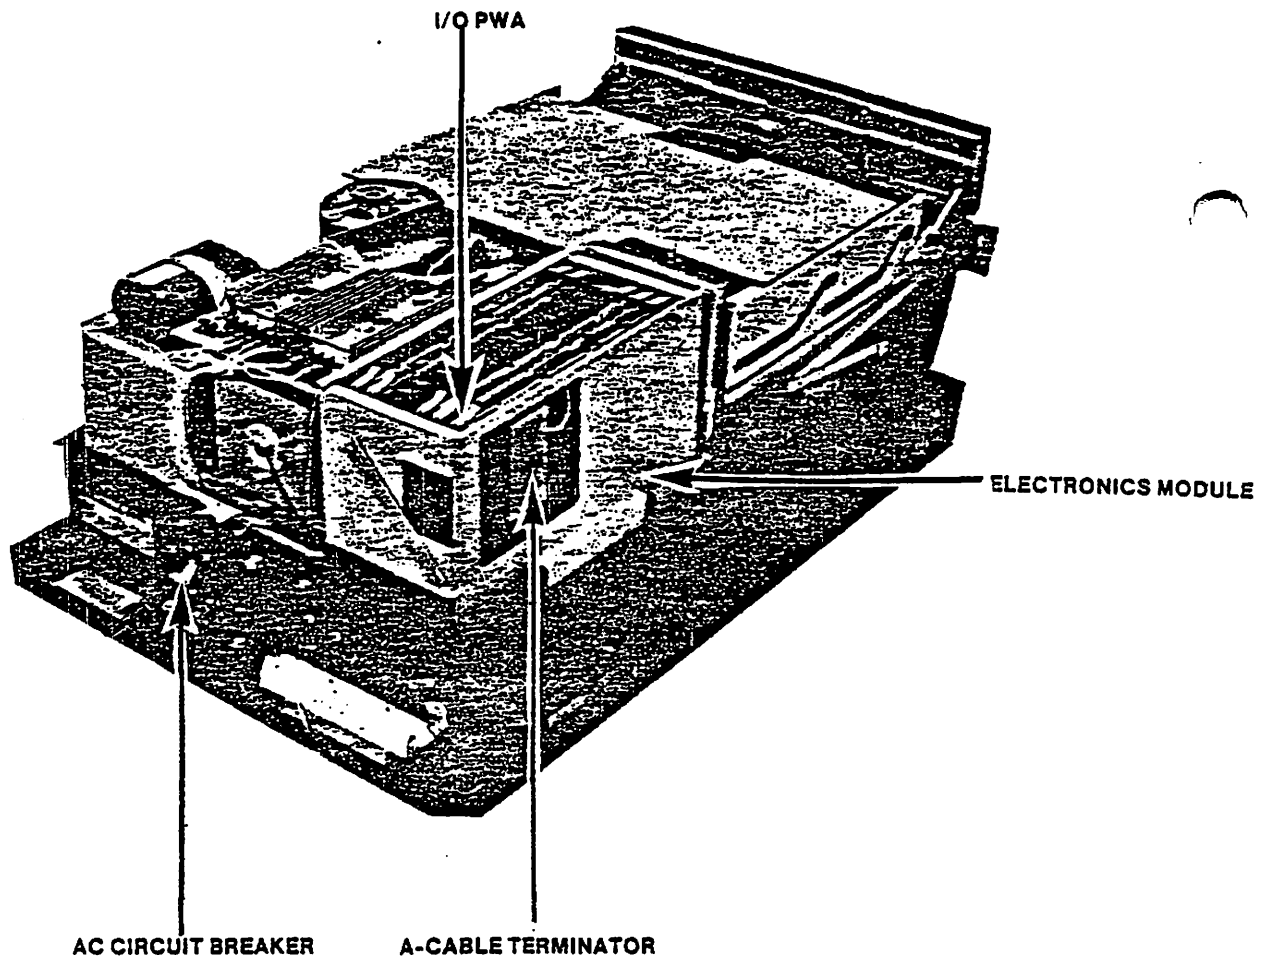

FIGURE 1 ELECTRONICS MODULE/A-CABLE TERMINATOR LOCATIONS
- B. Turn AC power off using AC circuit breaker shown in Figure 1.
- E. Refer to Figure 1. Remove the A-Cable Terminator, CDC CMD PCB #75886100, from the I/O J2 slot of the I/O PWA in the electronics module.